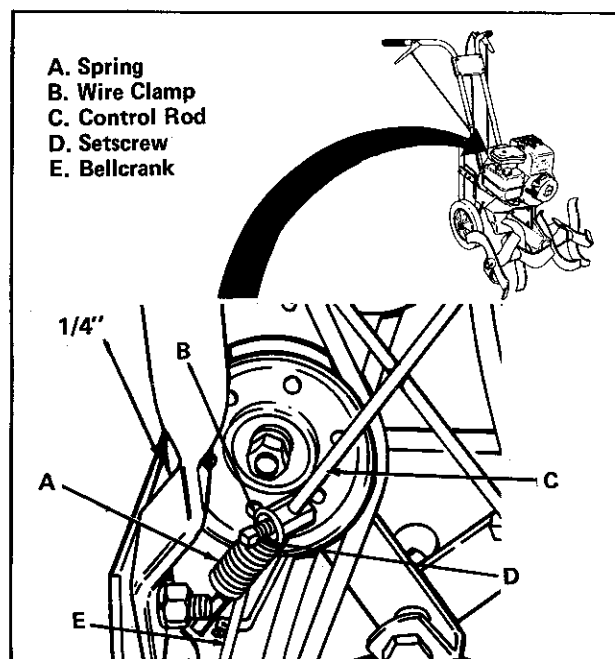

Figure 24. Forward Control Rod Assembly
2. Hook spring (item A, figure 24) in top hole of bellcrank (item E).